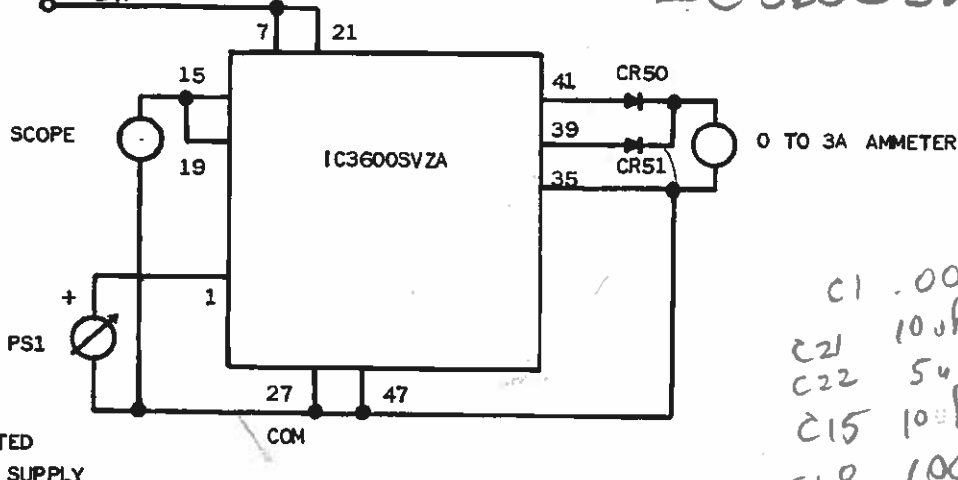

FIG. 1
I. CONNECT CIRCUIT PER FIG. 1.
7. REMOVE POWER. CONNECT CATHODE OF TEST DIODE CR51 TO PIN 35 DIRECTLY. REAPPLY POWER. VERIFY AMMETER READS APPROXIMATELY 1/2 OF STEP 6. REMOVE POWER. RECONNECT CR50 AND 51 PER FIG. 1.
1. RECONNECT PS1 PER FIG. 1. CONNECT PIN 37 TO PIN 51 TO COM, CONNECT